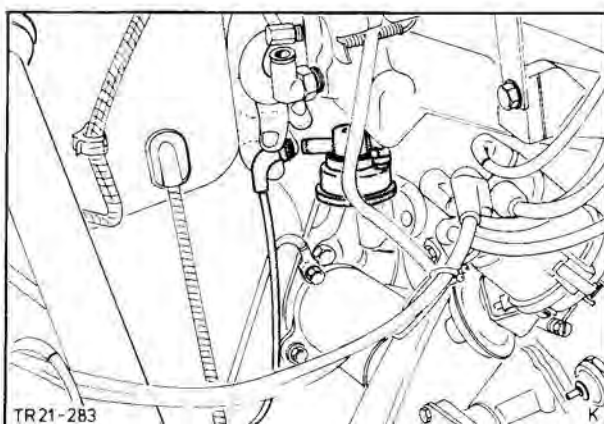

Fig. 16. Remove fuel line from petrol pump ('A' engine)
10. Detach fuel line from petrol pump, Fig. 16. Detach brake servo vacuum hose from inlet manifold.